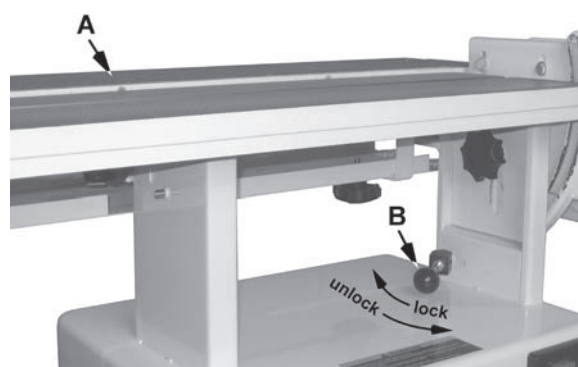

Fig. 7
Referring to Figure 7:
2. Loosen (unlock) the handle (B, Fig. 7) and place the platen in the horizontal position as shown in (A, Fig. 7). Do not lock.